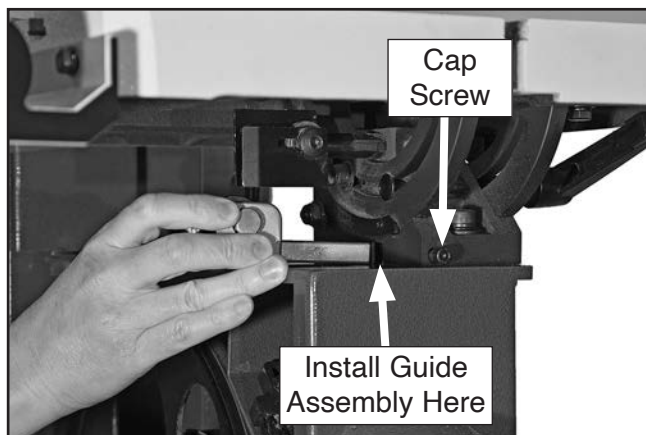

Figure 55. Installing lower "Euro-style" roller-disc guide assembly.
4. Loosen cap screw shown in **Figure 55**, remove lower blade guide assembly, and replace it with lower "Euro-style" roller-disc guide assembly.